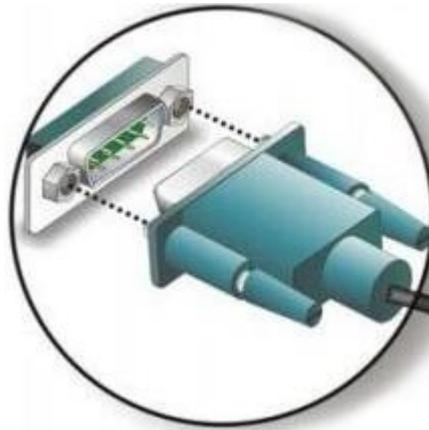

Figure 2-7 Serial device connection
Step 2: Insert the serial connector. Insert the DB-9 connector of a serial device into the DB-9 connector on bottom panel (see Figure 2-7).